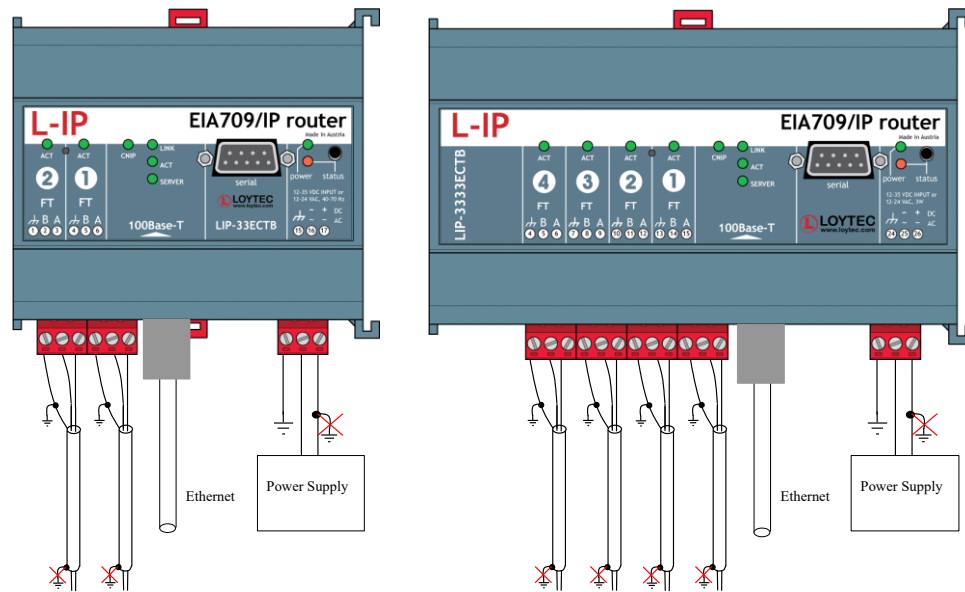

Figure 35: Connecting the Earth Ground to the L-IP series "B".
**Important:** *When using shielded network cables, only one side of the cable should be connected to earth ground. Thus, the shield must be connected to earth ground either at the L-IP terminals or somewhere else in the network (see Figure 35)!*